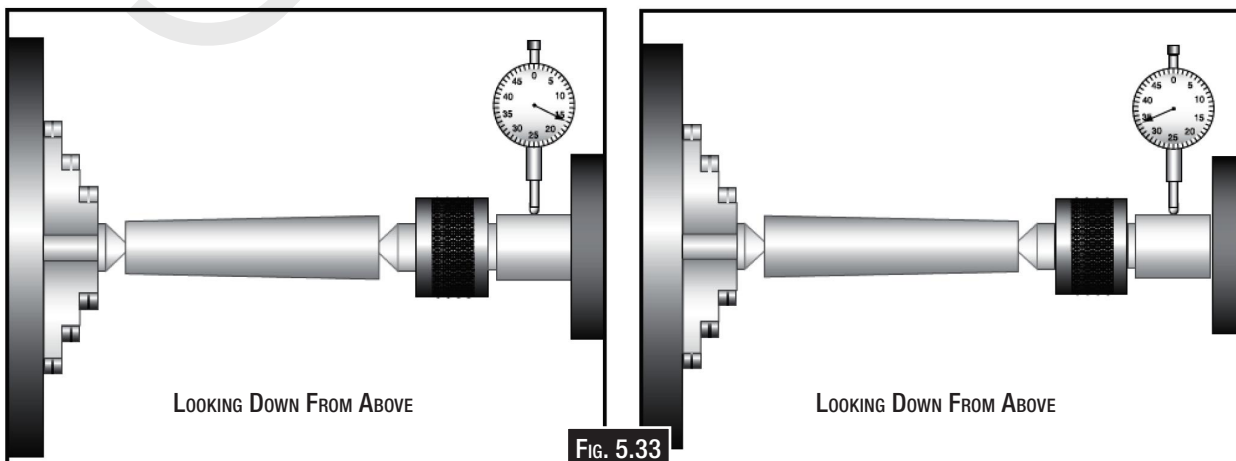

Fig. 5.33
4. Attach a lathe dog to the chuck bar stock from step 1, and mount between the centers (Fig. 5.33).
6. Mount a dial indicator so that the plunger is on the tailstock quill (Fig. 5.33).
7. Measure the stock with a micrometer. If the stock is wider at the tailstock end, the tailstock needs to be moved toward the front of the lathe half the amount of the taper. If the stock is thinner, at the tailstock end, the tailstock needs to be moved toward the rear of the lathe by half the amount of the taper (Fig. 5.33)